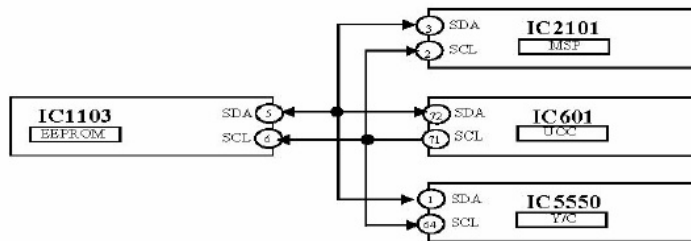

Fig 1.0
- 5V is set for SDA / SCL. [Fig 1.0]